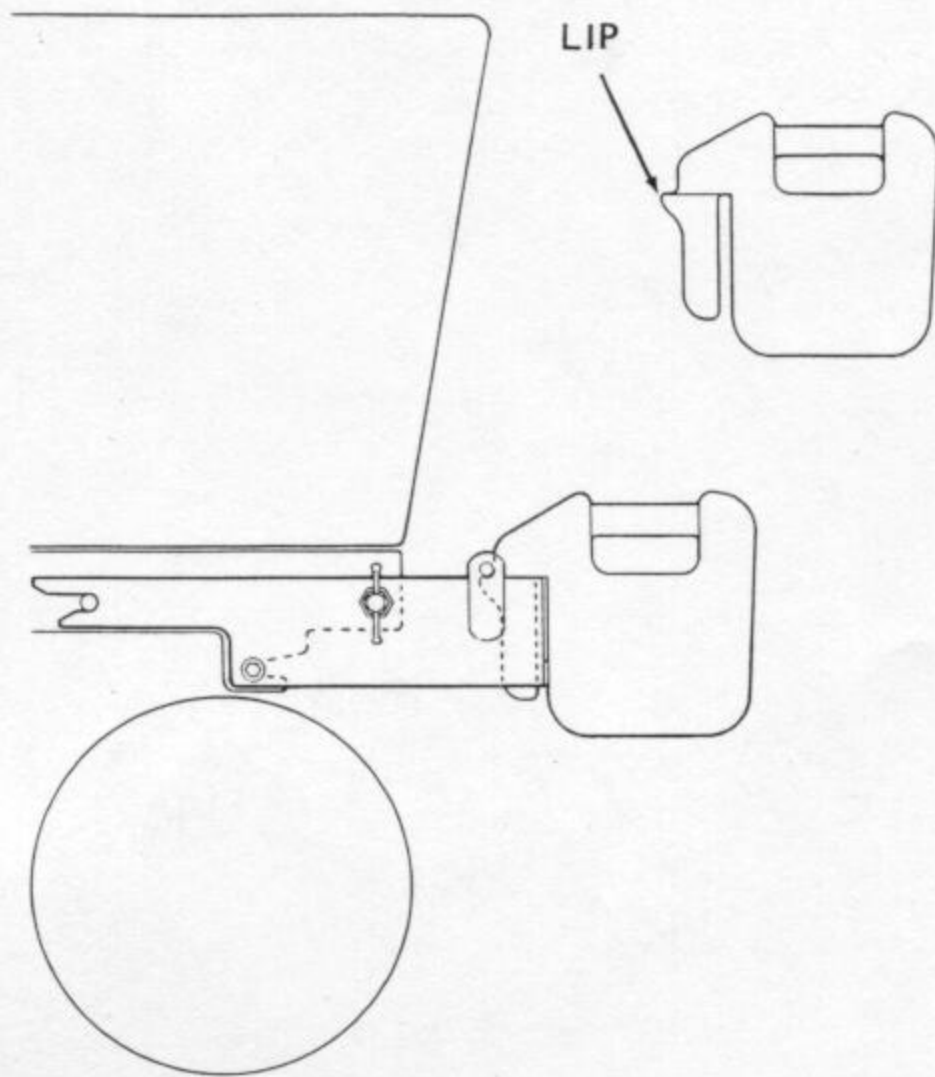

Figure 3
Refer to Figure 3 and proceed as follows:
2. Place the weights on the Front Weight Bracket Kit as shown in Figure 3.